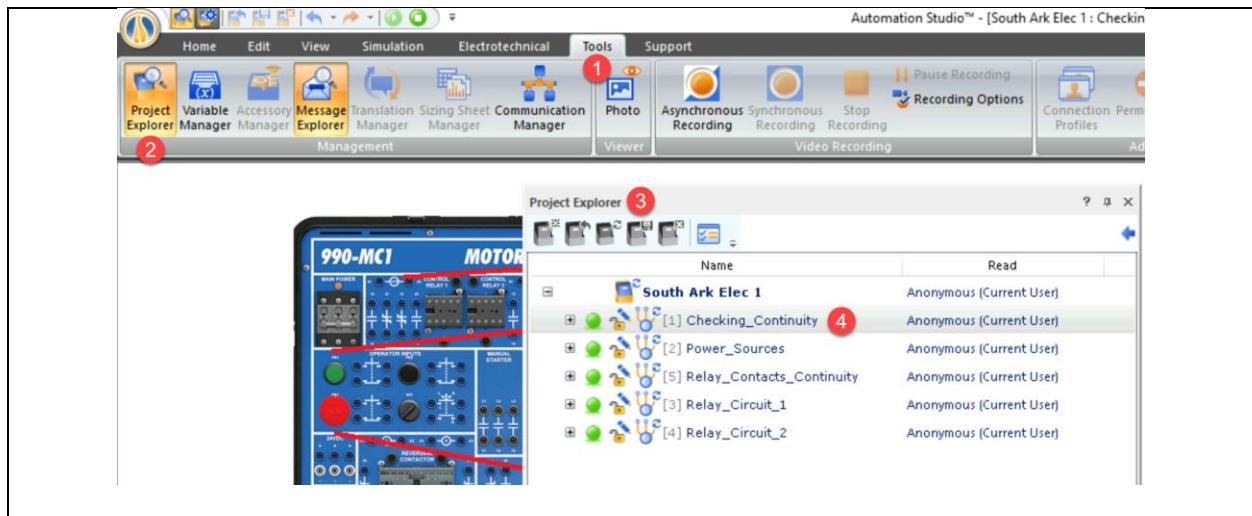

Figure 2. Project Explorer in Automation Studio.
2. Open the simulation file named: “**PTEC1113 Lab 2_1 Electrical Concepts**”. Figure 2 shows how to access the Project Explorer, which will show the 5 documents that make up the simulation. Each document has a circuit on it.
3. Figure 2 shows the steps to get to the Project Explorer in Automation Studio:
4. Go to the Checking_Continuity document (marked as “4” on Figure 2)